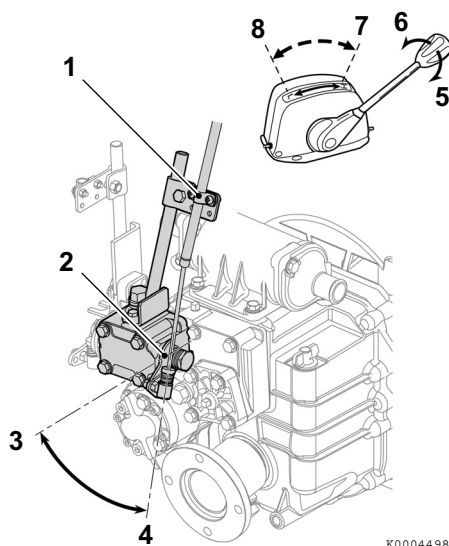

Figure 3
2. Reduce the speed by moving the trolling handle from high speed (H) (**Figure 3, (4)**) to low speed (L) (**Figure 3, (3)**). Adjust the speed to the desired rate and secure the trolling handle in place.
3. Before returning to normal operation, be sure to put the trolling handle in high-speed (H) position.